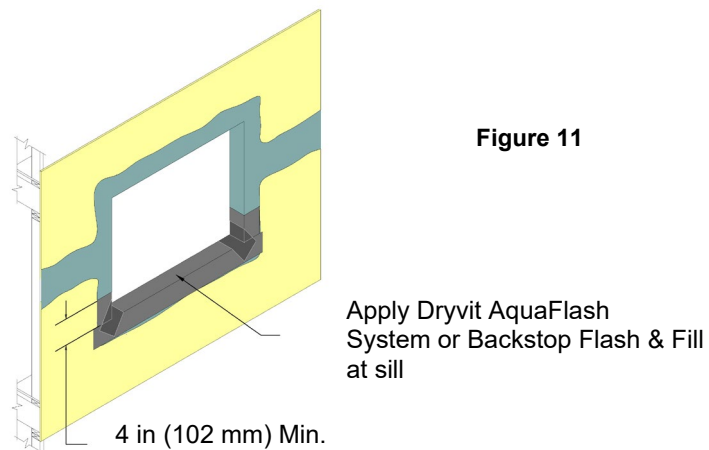

Figure 11
- 3) Apply Dryvit AquaFlash System or Backstop Flash & Fill at sill in accordance with Sections IV.A.3. **NOTE: AquaFlash System or Backstop Flash & Fill must extend up the jambs a minimum of 4 in (102 mm) – Figure 11.**